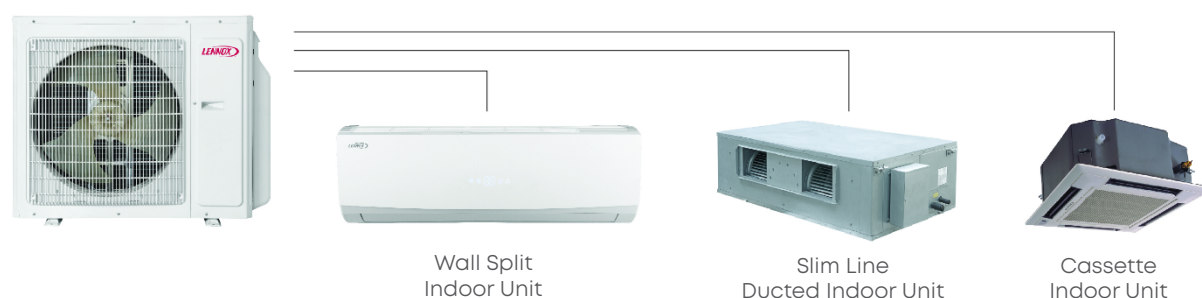

Figure 2: Combinations for Outdoor and Indoor Units
- See Figure 2 for combinations of outdoor and indoor Units. For the Multi Split System, one outdoor unit can be connected to up to five indoor units (wall split, cassette, or slim line ducted). The outdoor unit will run if any one indoor unit receives the running command, and all indoor units stop once the outdoor unit is turned off.